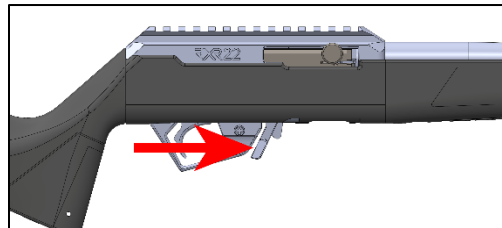

Figure 18
- Make sure your finger is away from the trigger and out of the trigger guard. While prepared to catch the magazine, push forward on the magazine latch and remove the magazine – Figure 18.